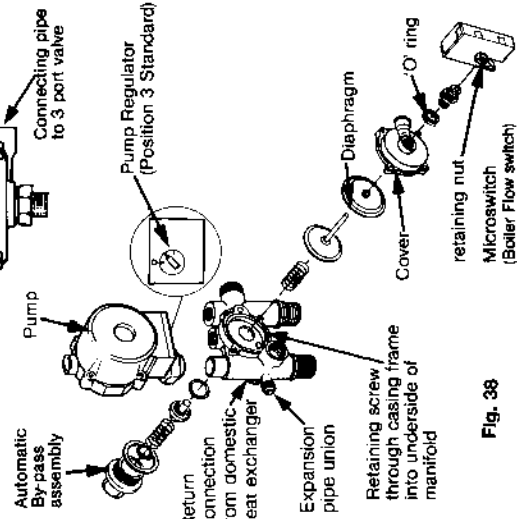

Fig. 38
- Refer to fig. 38
Refer to fig. 38 for location of components. Replace in reverse order, ensuring that washers are replaced in all union connections.